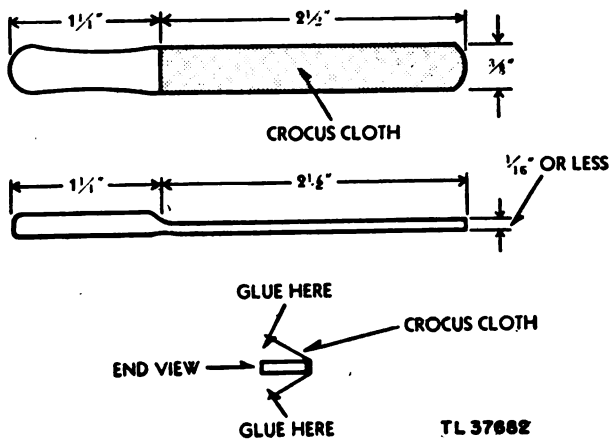

Figure 5. How to make the special relay cleaning tool.
- (3) One relay-contact burnishing tool.
- (4) One 1-inch cleaning brush.
- (5) Two tubes of household cement.
**b. CONSTRUCTION OF SPECIAL TOOL.** In addition to the tools supplied it will be necessary to construct a crocus-cloth stick to be used on the relay contacts. A small piece of crocus-cloth is cemented to a small stick as shown in figure 5. Note that both sides of the stick are covered. Place the stick in a vise until the cement hardens. The pieces of crocus cloth which extend over the back edge of the stick may be cut off with a knife.